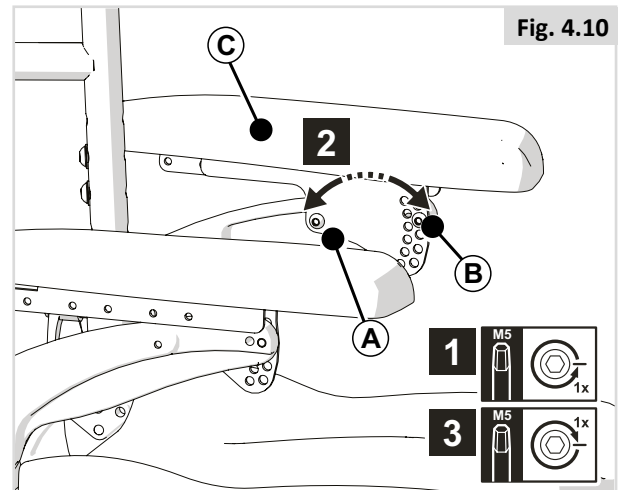

Fig. 4.10
PART 2 (Fig. 4.10)
In order to reach the rear screw in lower armrest heights, loosen screws (A) of Fig 4.10 and adjust the angle of the pad first.